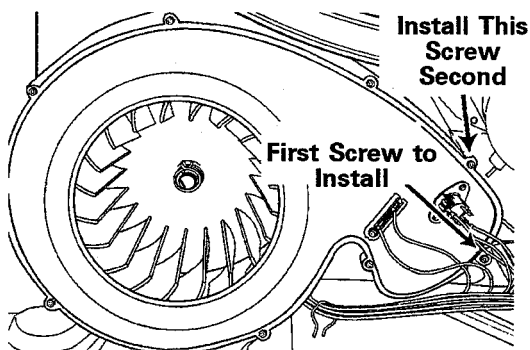

Figure 2-46
3. Install the far right screw closest to the exhaust duct (right most screw), *see Figure 2-46*.